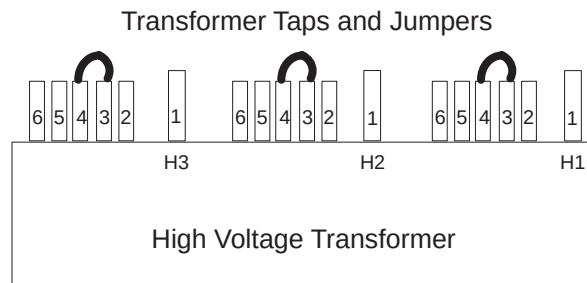

Figure 2-3 PDU Tap Positions (Rear)
- 2.) After you determine the nearest nominal line, verify the tap connections match (refer to Table 2-1 and Figure 2-3 for tap locations).